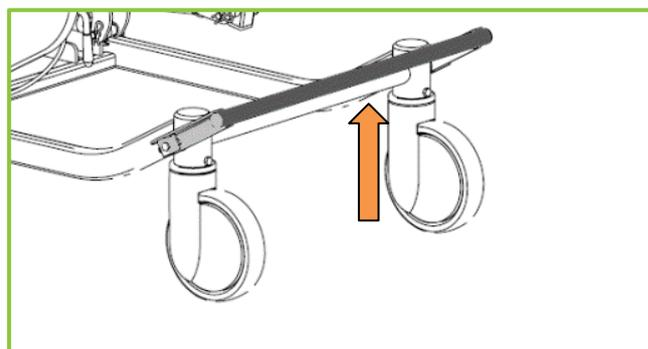

Figure 34 – Brake unlocked
2. To unlock the brake, lift the central brake pedal bar up until the brake disengages. Figure 34 shows the brake unlocked.